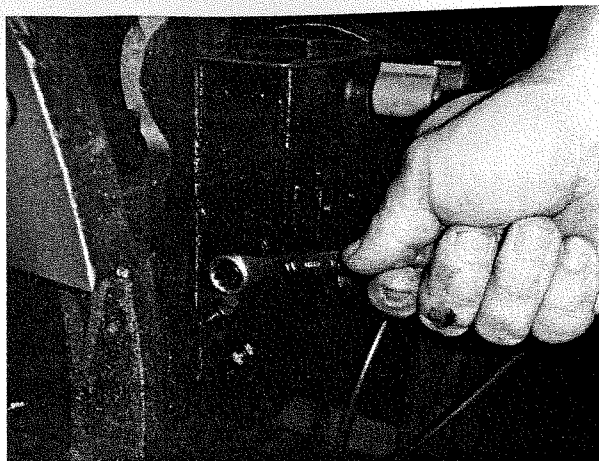

Fig 2-25
(4) The two mounting bolts shall be firstly screwed up using a torque of 28.4-44 N.m (2.9-4.5kg.m), before the lock screw on the end part of shaft arm is tightened up (Fig 2-25).